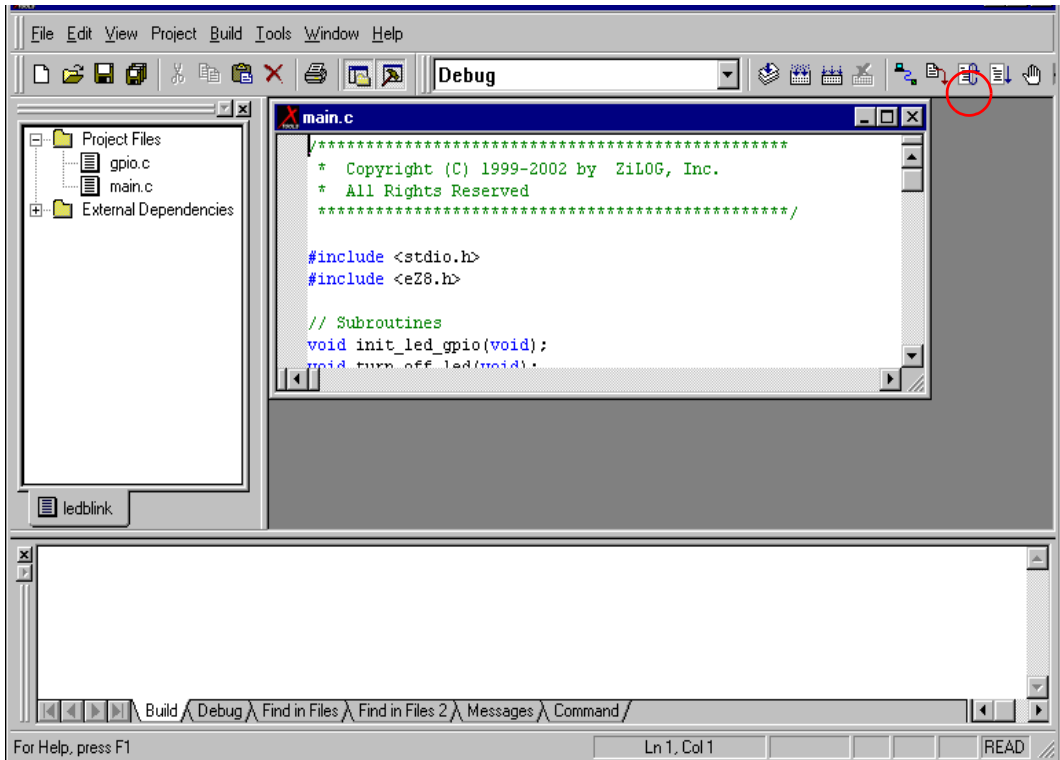

Figure 13. ZDS II Opening Screen
7. Select the ledblink.pro file. The initial ZDS II program screen opens (Figure 13).